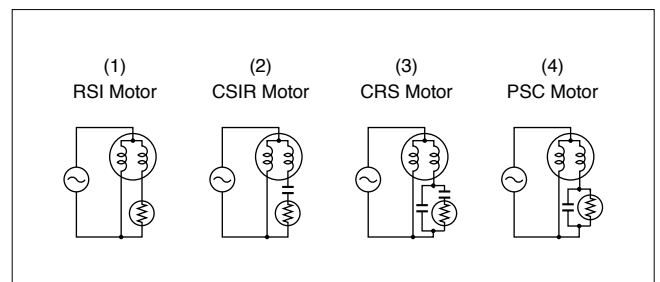

Fig. 18 Motor starting
If the POSISTOR is used as a contactless starter rely, for compressors as in refrigerators, freezers and air conditioners, strong starting torque can be generated. (Fig. 18(1) to (4))